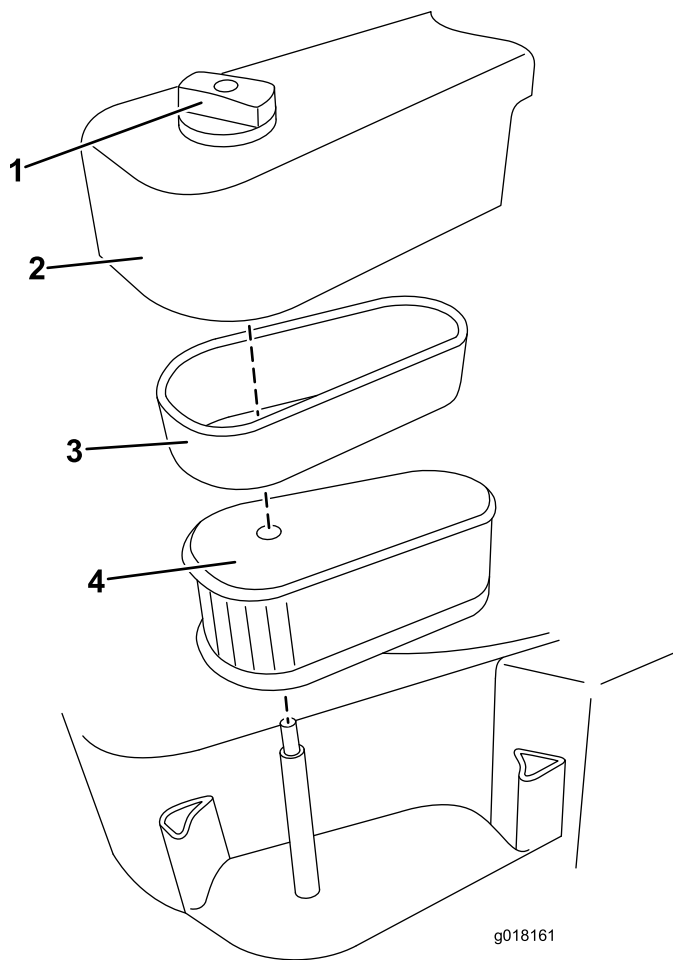

Figure 16
2. Loosen the knob securing the air-filter cover (Figure 16).
- Carefully remove the foam filter and the cartridge together, then separate the foam filter from the cartridge (Figure 16).
- Install the cover (Figure 16).